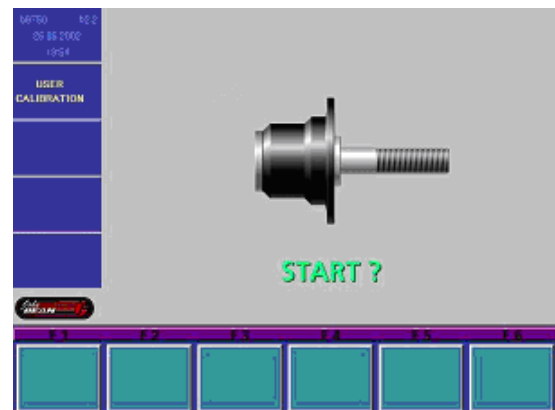

Figure 38
4. Lower the wheel guard and press the **“SPIN”** key. The balancer should spin and come to a complete stop. See Figure 38.